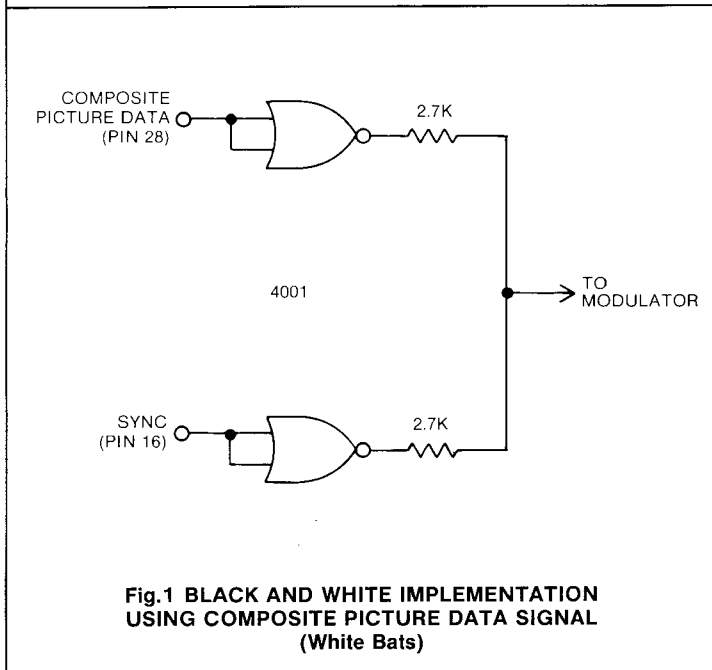

Fig.1 BLACK AND WHITE IMPLEMENTATION USING COMPOSITE PICTURE DATA SIGNAL (White Bats)
**Clock Input (17)** The 2MHz master timing clock is input to this pin. The exact frequency is  $2.012160 \pm 1\%$ .
**Field Output (24)** The field video signal is output on this pin.
**Reset (25)** This input is connected momentarily to  $V_{SS}$  (Logic '0') to reset the score counters and start a new game. Normally left open circuit.
**Shot Input (26)** This input is driven by a positive pulse output by a monostable to indicate a "shot".
**Hit Input (27)** This input is driven by a positive pulse output of a monostable which is triggered by the shot input if the target is on the sights of the rifle.
**Composite Picture Data (28)** This positive going output is the sum of the picture data for the bats, ball, field and score and can be used in lieu of the data on pins 9, 10 and 24. This signal and Sync are the only signals required for black and white operation (see Fig. 1).